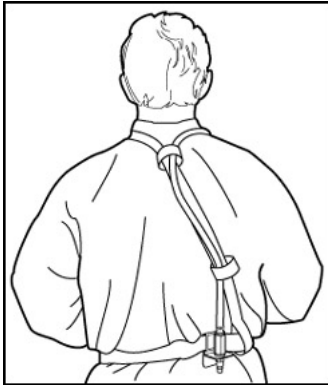

Fig. 5
9. Place the belt around your waist. With the female part of the buckle on your right, buckle it into place. Slide the air regulating valve over to the right hip. (Fig. 5)
10. Bring the free end of the shoulder strap across the back, over the left shoulder and down across your chest to the female end of the belt buckle. (Fig. 5)